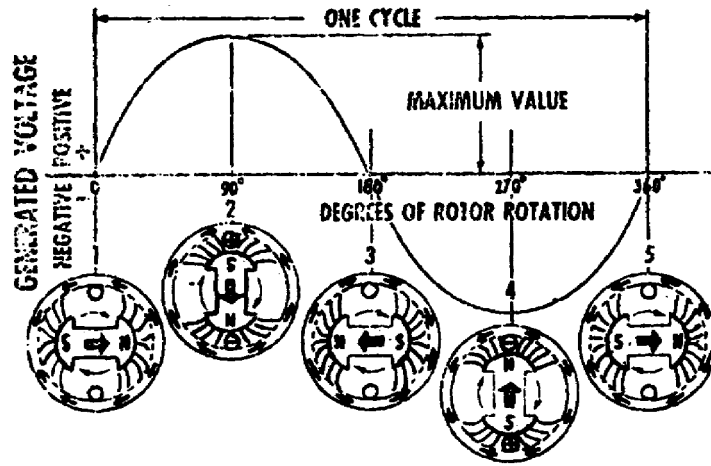

Figure 21. Single phase.
a. Pictured in figure 21 are different positions of the rotor as it rotates at constant speed. In the top portion of the illustration is a curve showing the magnitude of the voltage which is generated in the loop of wire as the rotor revolves. The voltage curve shows the generated voltage or electrical pressure which can be measured across the ends of the wire, Just as voltage can be measured across the terminal posts of a battery.